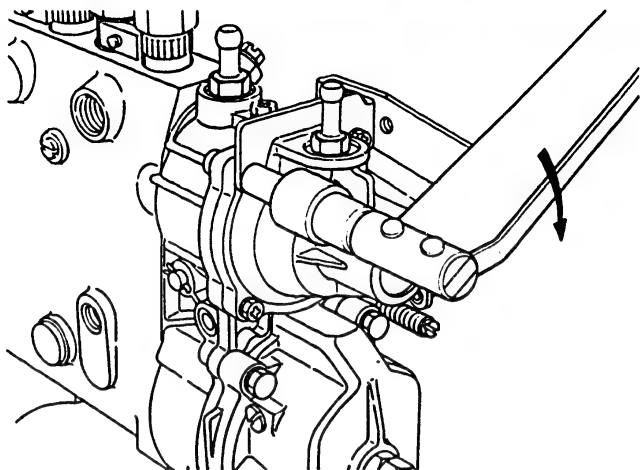

Fig. 53 Tightening the bolts
2. Tighten the four bolts securing the diaphragm cover to a tightening torque of 0.25 to 0.4 kg·m. (Fig. 53)